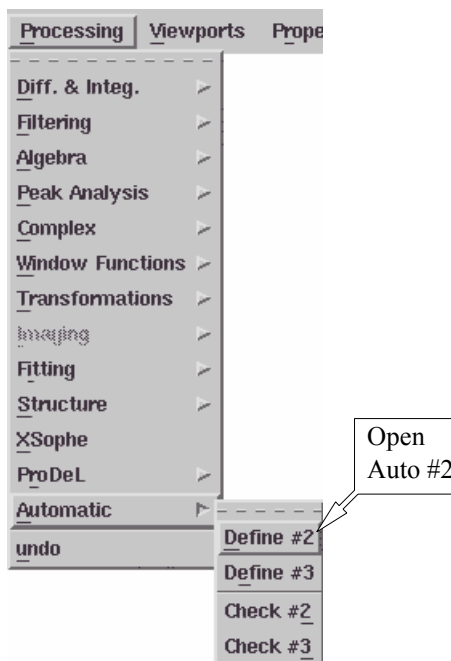

Figure 9-6 Opening the Automatic Define #2 dialog box.
2. **Open the second auto post-processing dialog box.** Click Processing > Automatic > Define #2 to open the dialog box. (See Figure 9-6.)